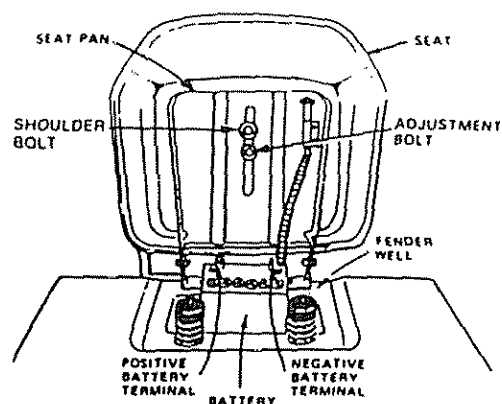

FIGURE 2
- a. Place seat on seat pan. Screw hex head machine screw, lockwasher and flat washer into seat (Fig 2) Screw shoulder bolt and flat washer into seat (Fig 2) Machine screw, shoulder bolt and flat washers found in bag of parts (shown full size on page 6)
- Lift seat (Fig. 2).